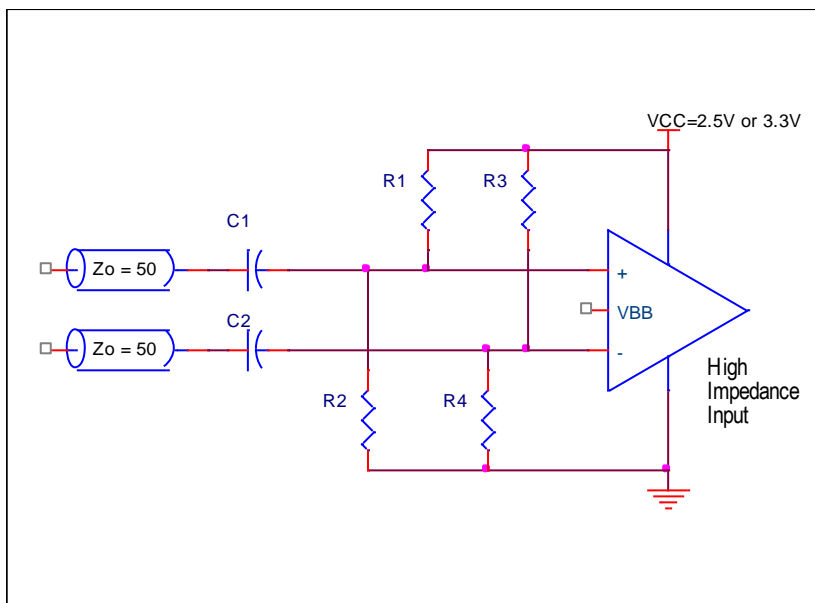

Figure 7. Example 3 – 853S01 Input Interface
- Figure 7. Example 3 – 853S01 Input Interface6